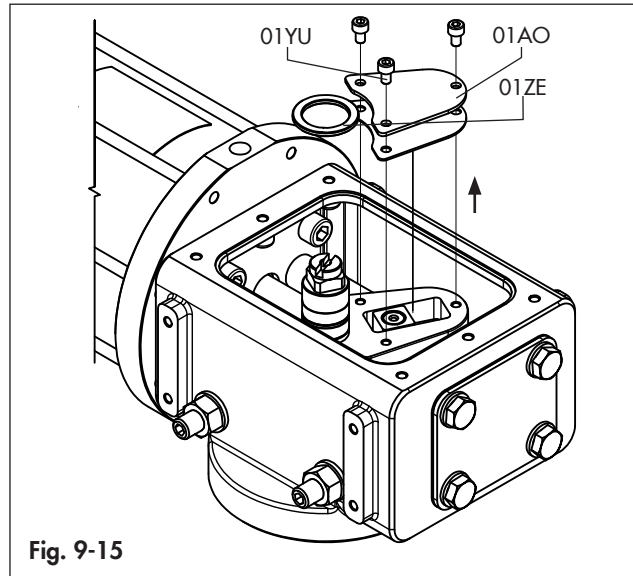

Fig. 9-15
- Unscrew the screws (01YU) from the yoke cover (01AO). (Fig. 9-15)
- Remove the yoke cover (01AO), the gasket (01AU) and upper thrust bearing (01ZE) (Fig. 9-15).